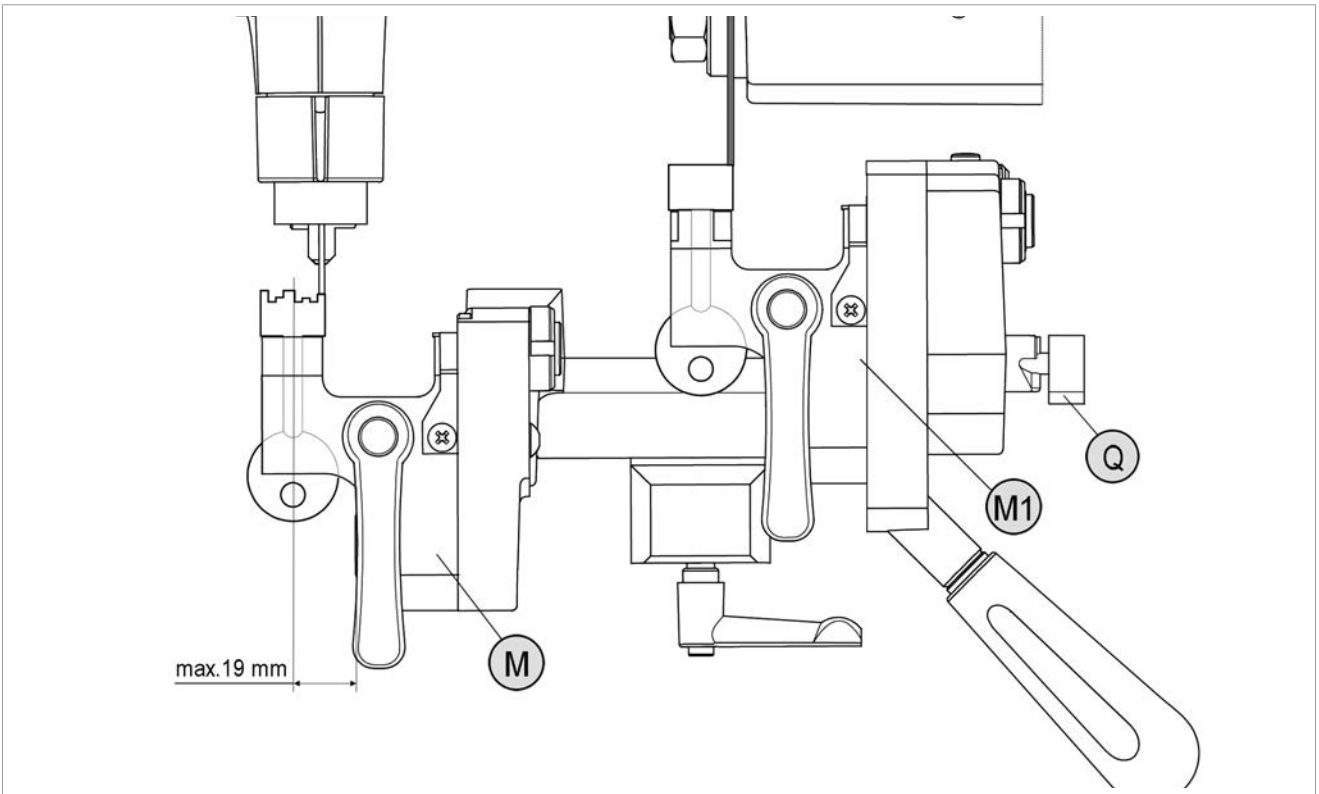

Fig.55
- 1) Use the lever (Q) to lock the right-hand clamp in the horizontal position.
- 2) Fit the original key into the left-hand clamp (M) with the bit up against the lower jaw of the clamp (Fig.55).